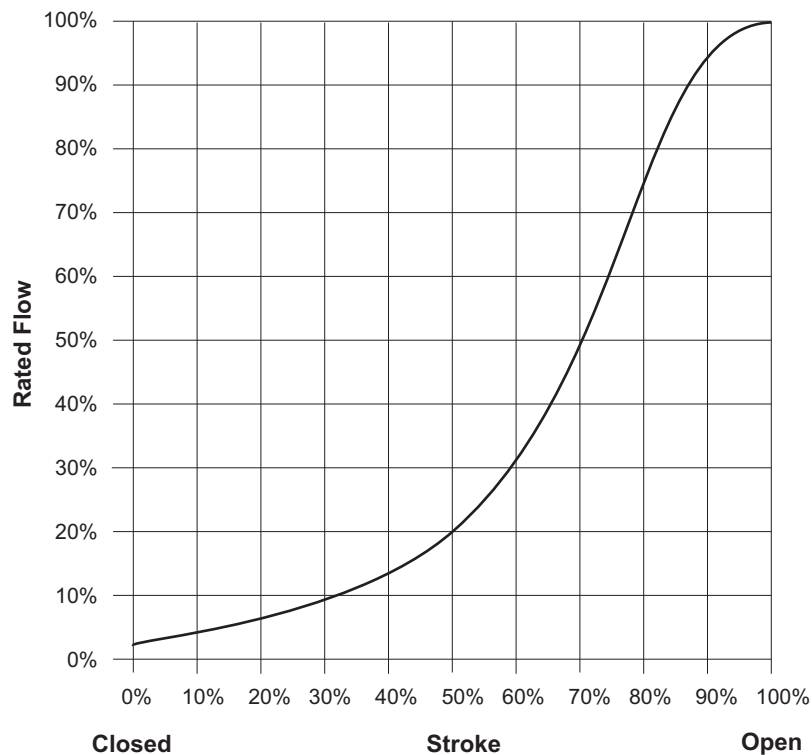

Figure-1 Typical Modified Equal Percentage Flow Characteristics.
**2-Way Valves:** All valves have modified equal percentage flow characteristics. That is, for equal increments of valve stem stroke, the change in flow rate with respect to valve stroke may be expressed as a constant percent of the flow rate at the time of the change. The change of flow rate with respect to valve stroke is relatively small when the valve plug is near the valve seat and relatively high when the valve plug is nearly wide open. See Figure-1 for typical modified equal percentage flow characteristics of VB-72xx and VB-92xx series valves.